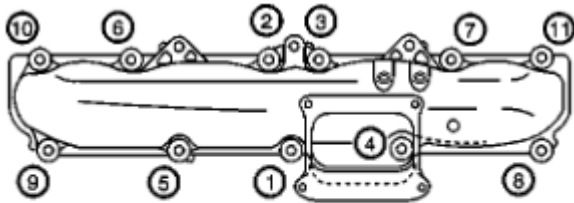
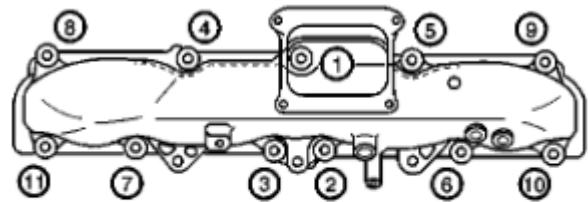

Fig. 86: Driver's side intake manifold tightening sequence
Fig. 87: Passenger side intake manifold tightening sequence
- Install the intake manifolds onto the cylinder heads and torque the bolts to 18 ft-lb in the sequences shown in figure 86 (driver's side) and figure 87 (passenger side).